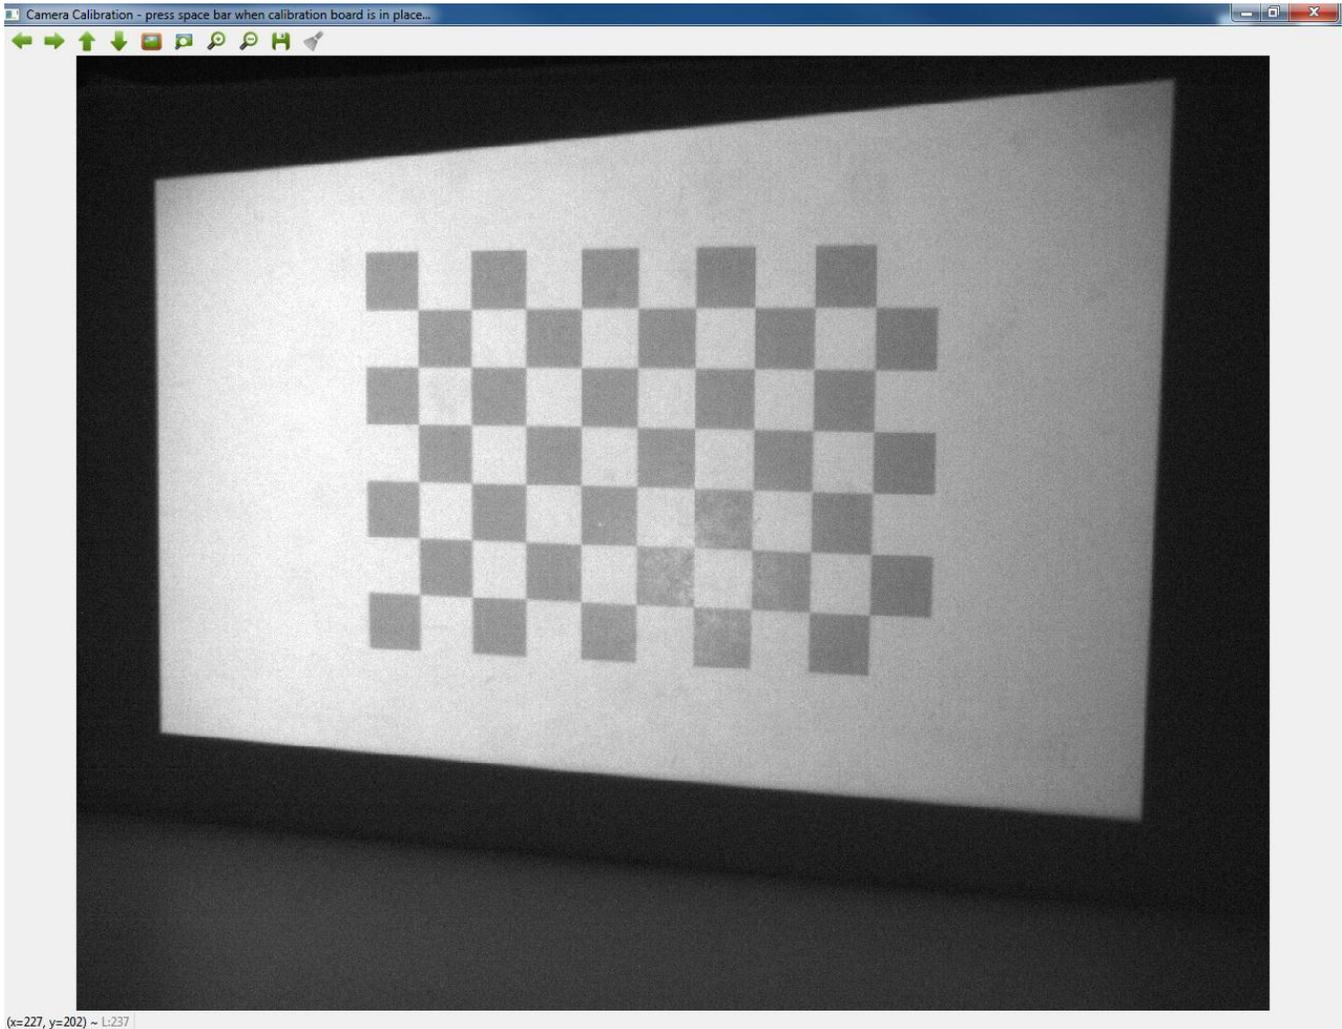

Figure 3-10. Camera Calibration Board Live View
6. A live camera view window will appear on the host PC. Position the camera calibration board entirely in the frame, as shown in Figure 3-10.